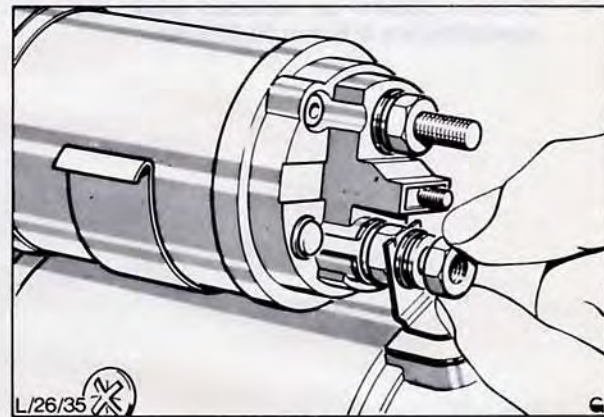

Fig. 79. Disconnecting starter terminal
1. Clamp starter motor in vice fitted with protective soft jaws. Remove nut and washer securing starter terminal to solenoid terminal marked STA, Fig. 79.